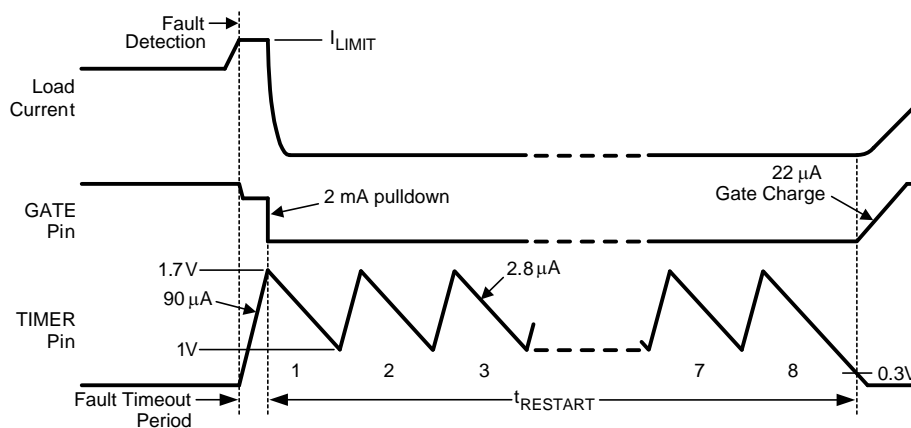

Figure 35. Restart Sequence
When the current limit or power limit threshold is reached during turn-on, or as a result of a fault condition, the gate-to-source voltage of Q_1 is controlled to regulate the load current and power dissipation in Q_1 . When either limiting function is active, a 90 μ A fault timer current source charges the external capacitor (C_T) at the TIMER pin as shown in Figure 35 (Fault Timeout Period). If the fault condition subsides during the Fault Timeout Period before the TIMER pin reaches 1.7V, the LM25066A returns to the normal operating mode and C_T is discharged by the 1.9 mA current sink. If the TIMER pin reaches 1.7V during the Fault Timeout Period, Q_1 is switched off by a 2 mA pull-down current at the GATE pin. The subsequent restart procedure then depends on the selected retry configuration.
The LM25066A provides an automatic restart sequence which consists of the TIMER pin cycling between 1.7V and 1V seven times after the Fault Timeout Period, as shown in Figure 35. The period of each cycle is determined by the 90 μA charging current, and the 2.8 μA discharge current, and the value of the capacitor C_T . When the TIMER pin reaches 0.3V during the eighth high-to-low ramp, the 22 μA current source at the GATE pin turns on Q_1 . If the fault condition is still present, the Fault Timeout Period and the restart sequence repeat. The $\overline{\text{RETRY}}$ pin allows selecting no retries or infinite retries. Finer control of the retry behavior can be achieved through the DEVICE_SETUP (D9h) register. Retry counts of 0, 1, 2, 4, 8, 16 or infinite may be selected by setting the appropriate bits in the DEVICE_SETUP (D9h) register.
C) Restart Timing -For the LM25066A, after the Fault Timeout Period described above, C_T is discharged by the 2.8 μA current sink to 1V. The TIMER pin then cycles through seven additional charge/discharge cycles between 1V and 1.7V as shown in Figure 35. The restart time ends when the TIMER pin voltage reaches 0.3V during the final high-to-low ramp. The restart time, after the Fault Timeout Period, is equal to: